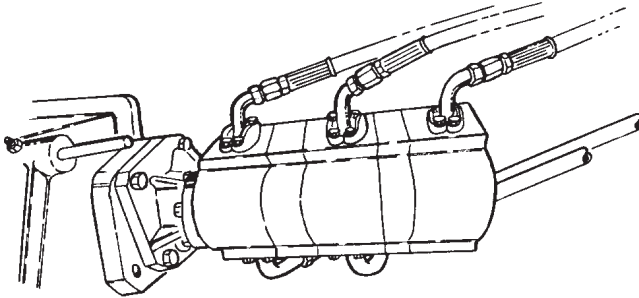

FIGURE 7.6
- (b) Flanged fittings with threaded elbows attach to the pressure (left) side of pump. See Figure 7.6. Fittings should be installed so they are horizontal or parallel to the ground.